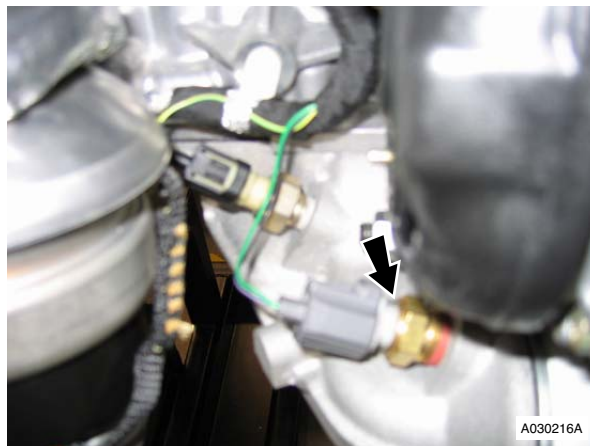

Figure 7
14. Disconnect multiplug from engine electric coolant temperature sensor (see Figure 7).